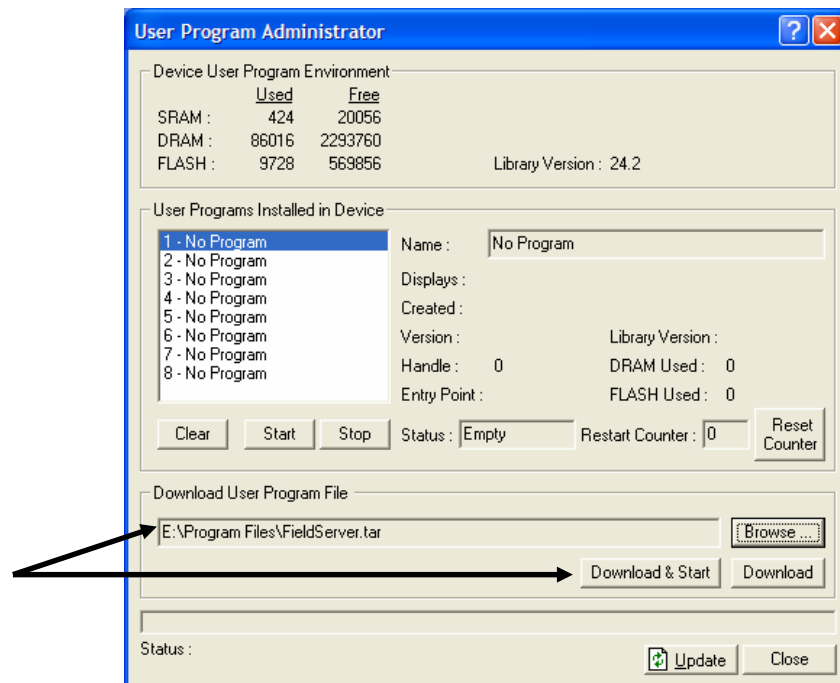

Figure A-5. User Program Administrator
5. Click **Open** to select the program file. The User Program Administrator screen displays. As shown in *Figure A-5*, note that the Download User Program File frame identifies the selected program and that the **Download & Start** button is active.